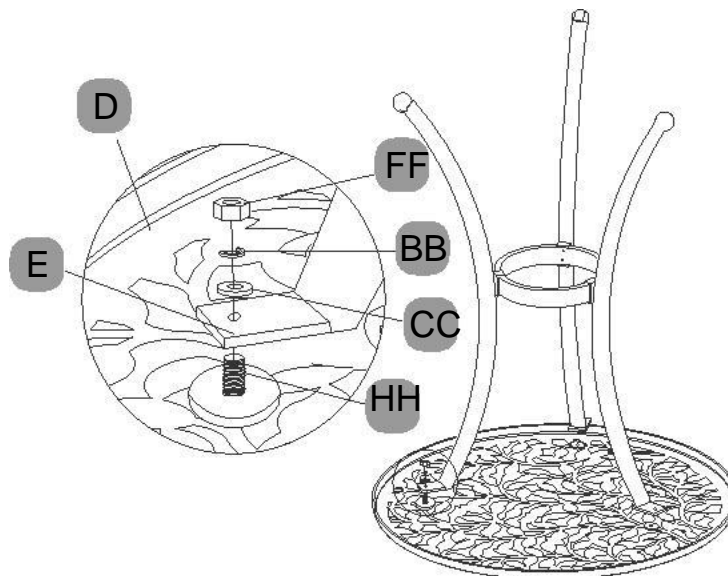

Fig. 4
Insert threaded rod (HH) into each leg-hole in table-top, then connect table top (D) to legs (E) with flat washers (CC), spring washers (BB) and nuts (FF), as shown in Fig. 4. Tighten all the nuts using wrench (DD).